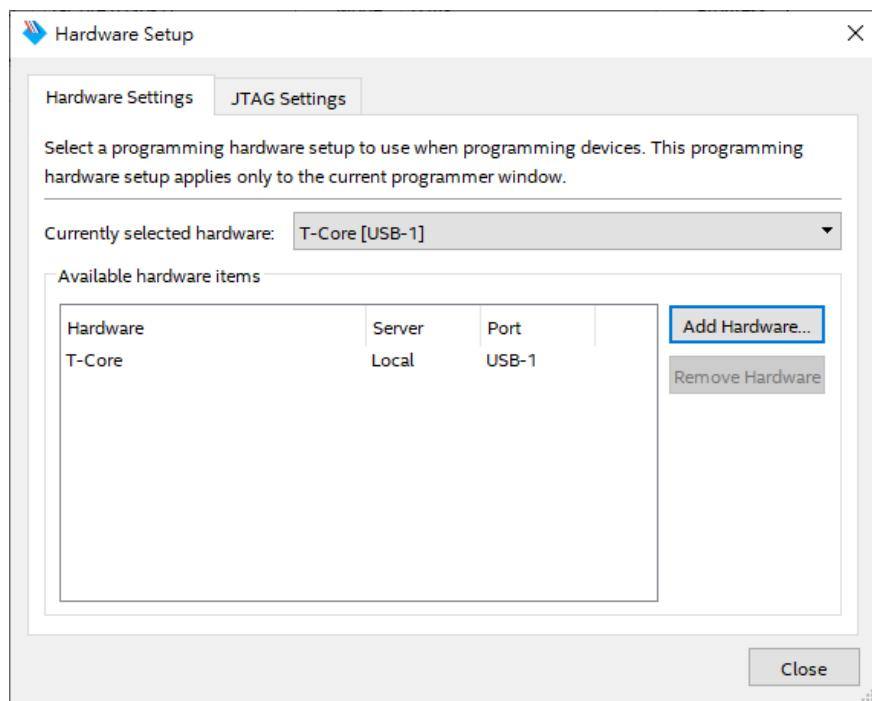

Figure 4-16 Hardware setup window
2. Click **Hardware Setup** and then select the DECore[USB-*] as shown in **Figure 4-16**.